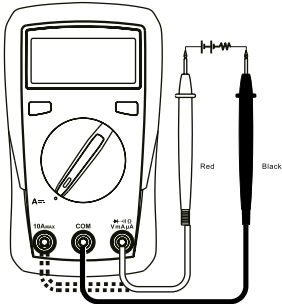

Figure 3
- 5. DC measurement (see Figure 3)